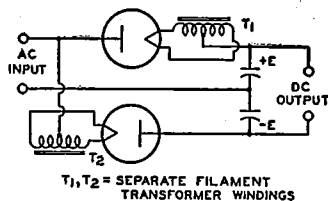

Fig. 19—Full-wave voltage-doubler circuit.
**A voltage-doubler circuit** of simple form is shown in Fig. 19. The circuit derives its name from the fact that its dc voltage output can be as high as twice the peak value of ac input. Basically, a voltage doubler is a rectifier circuit arranged so that the output voltages of two half-wave rectifiers are in series.
So long as no current is drawn at the output terminals from the capacitor, each capacitor can charge up to a voltage of magnitude  $E$ , the peak value of the ac input. It can be seen from the diagram that with a voltage of  $+E$  on one capacitor and  $-E$  on the other, the total voltage across the capacitors is  $2E$ . Thus the voltage doubler supplies a no-load dc output voltage twice as large as the peak ac input voltage. When current is drawn at the output terminals by the load, the output voltage drops below  $2E$  by an amount that depends on the magnitude of the load current and the capacitance of the capacitors. The arrangement shown in Fig. 19 is called a full-wave voltage doubler because each rectifier passes current to the load on each half of the ac input cycle.